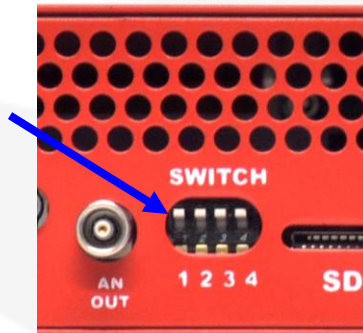

Figure 17: SWITCH position for update firmware
- Set the SWITCH #1 on the rear panel to be positioned high, as illustrated in Figure 17;